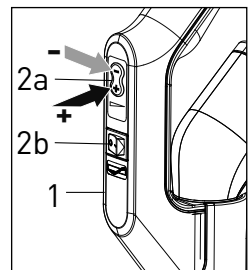

Figure 3
2. Grip the handle of the hose (1) with your thumb over the suction-adjustment control button (#2a, figure 3).
5. Press the (-) on the suction-control button on the handle (#2a, figure 3) to decrease the suction, or the (+) to increase the suction. You can press the soft-touch button several times or hold it steadily until you reach the suction desired.
6. If you continue to press the (-) you will eventually put the canister in standby mode. Standby mode means that the canister is plugged in, but not running. Note that when the canister is in standby mode, the blue light (8) around the on/off switch on the canister blinks back and forth.
8. Press the brush roller switch (#2b, figure 3) on the D4 handle to turn the brush roller on the ET-1 power head to the on or off position.
9. **BEFORE PROCEEDING WITH FURTHER ASSEMBLY AND USE**, turn off the vacuum with the on/off power knob on the canister (6) AND unplug the unit from the wall outlet.